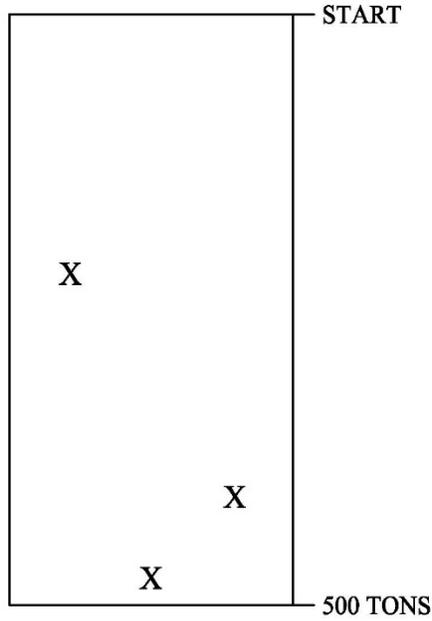

Figure 58-1: Temperature Segregation Study Done Correctly
- 4.1 Mark the start of the area that will be examined. The tonnage of the area can be calculated in length by using 110 lbs/yd²/inch or can be found by tracking asphalt tickets. See Figure 58-1.
In Figure 58-1 below, the tester performed the temperature segregation check correctly. A start was established and 500 tons were checked for temperature segregation. Three cool areas were found in the 500-ton temperature segregation check.